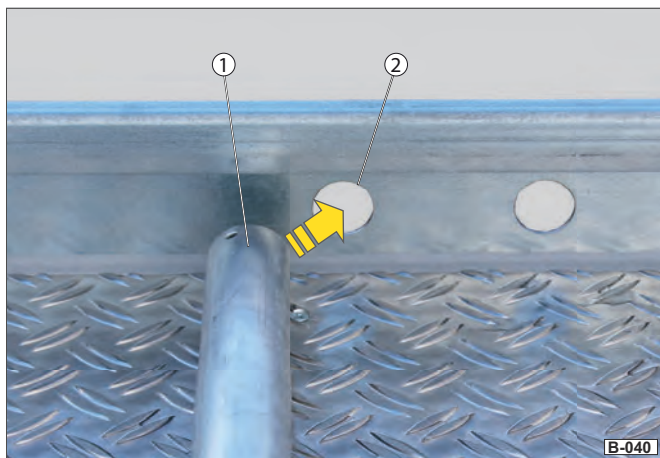

Fig. 46 Attaching wheel stops
- ▶ Press the wheel stop against the steel skirt and insert the pin on the fixed side (Fig. 46 /1) into the opposite hole (Fig. 46 /2).